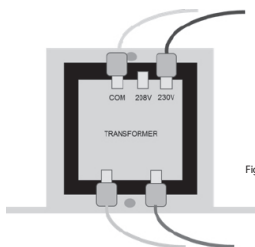

Figure 1: Transformer Wiring for 230V
2. Locate the transformer shown in Figure 1 below.